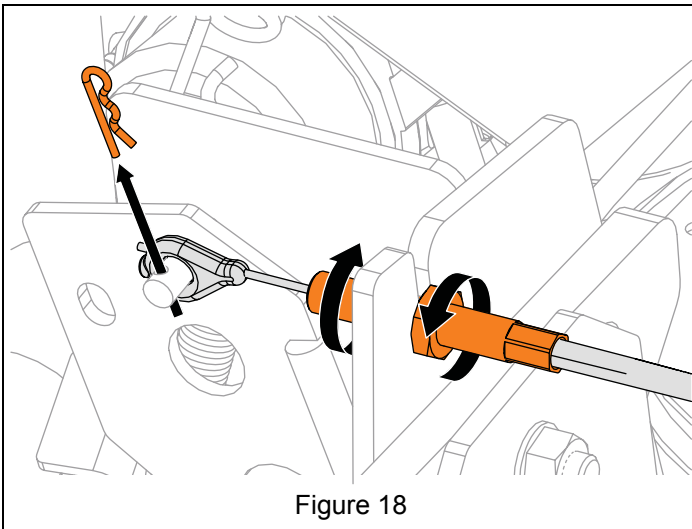

Figure 18
23. Remove hairpin from chute control assembly and reinstall cable eyelet onto assembly. Reinstall hairpin. See Figure 18.